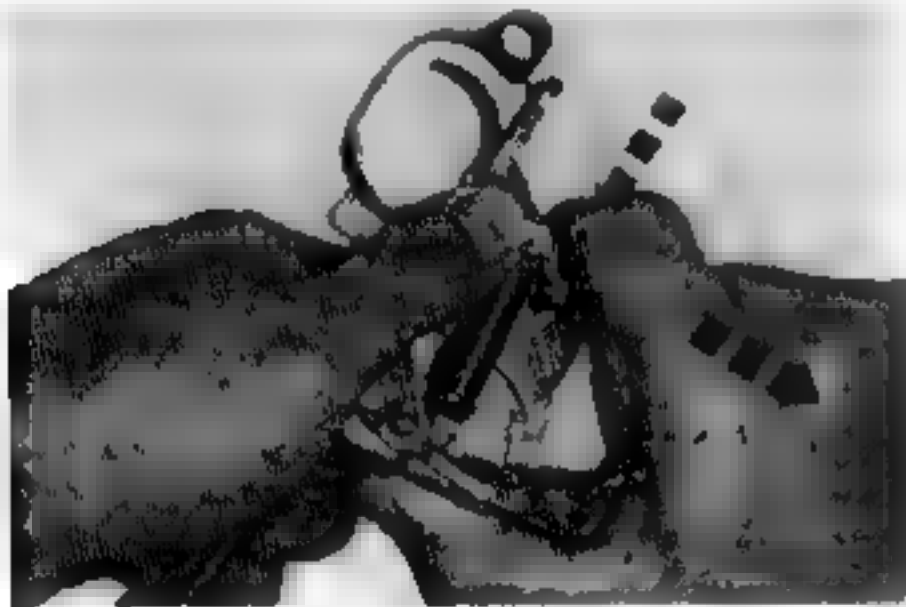

Fig. 80. Seating the trigger pin.
(6) To seat the trigger pin, hold the trigger housing group as shown in Fig. 80. Note the direction the pin must be moved to be seated. By applying pressure with the thumb and fingers, align the head of the trigger pin with the trigger pin holes. Seat the trigger pin by pressing on its head with the left thumb.